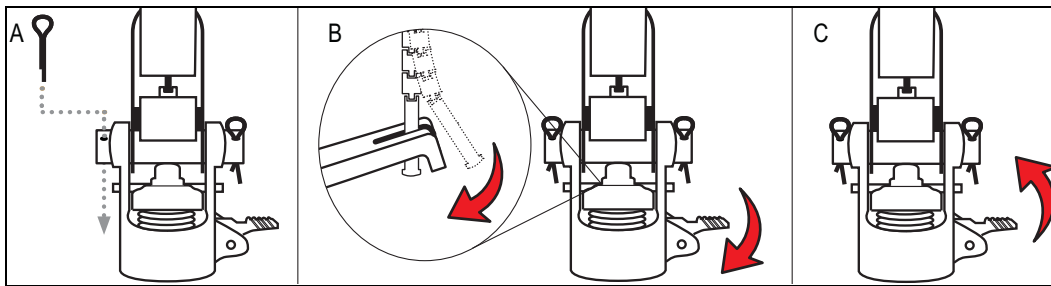

Figure 4. Connecting the Handlebar Chain
5. Insert the second cotter key into the hole on the opposite end of the pivot pin (Figure 4-A).
6. Push down on the steering column lever and hold down to assist in joining the handlebar chain with the lifting connection lever. Navigate the end of the chain into the groove in the lifting connection lever. Ensure the bottom catch of the chain is below the lever and seated completely into the groove for a good connection (Figure 4-B).
7. Release the steering column lever, further engaging the handlebar chain with the connection lever (Figure 4-C).